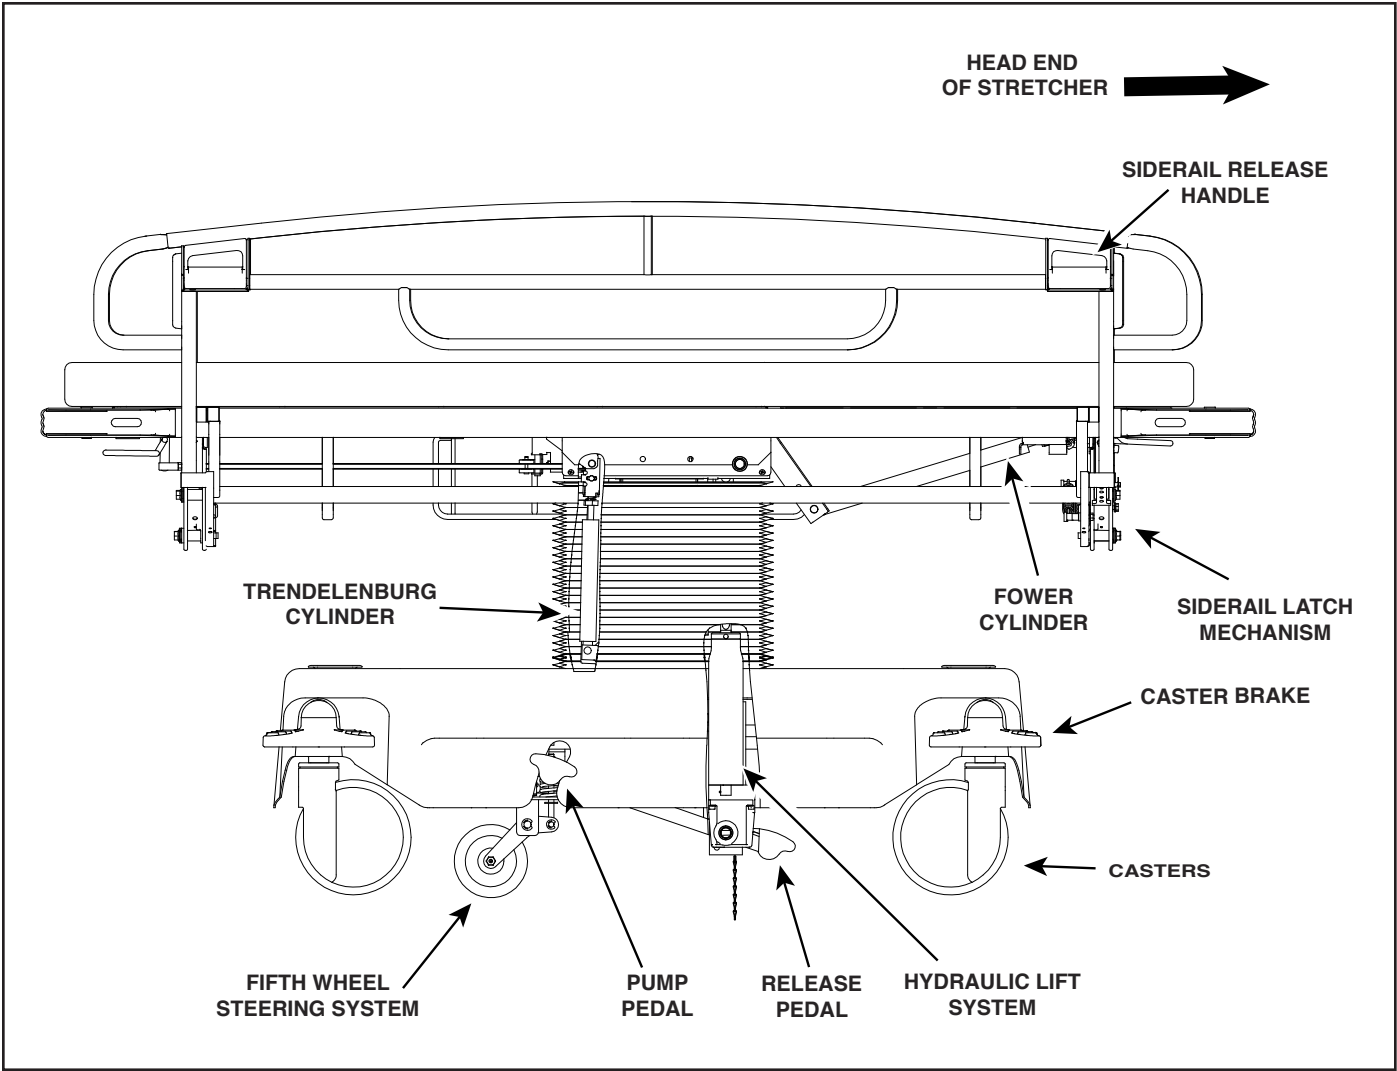

Figure 1-1. Major Components
A. General Description (See Figure 1-1).